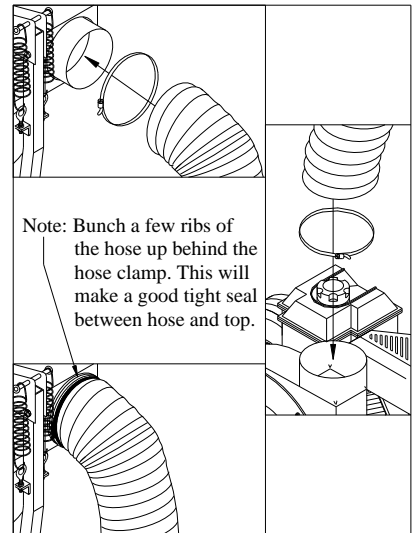

Fig. 12
10. Attach discharge hose (23) to intake nozzle in molded top with 6" band clamp (22) Note: try to bunch a few ribs of hose up between the band clamp and the molded top to achieve a more airtight attachment. Once achieved, attach the other end of exhaust hose to the exhaust on the blower housing with the other 6" band clamp (22) provided. **Fig. 12**